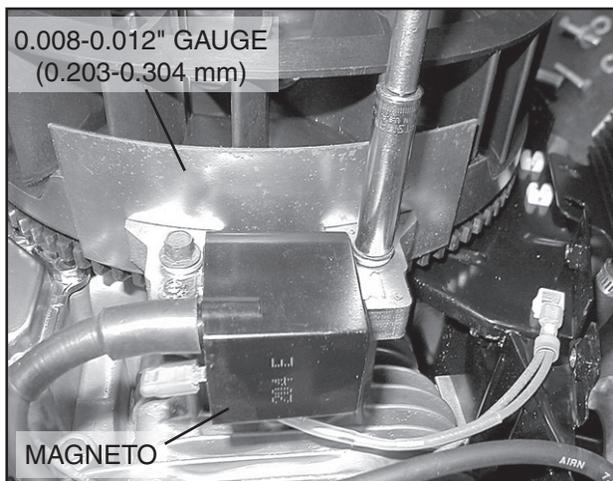

Figure 6-49. – Setting Ignition Magneto (Armature) Air Gap
1. See Figure 6-49. Rotate the flywheel until the magnet is under the module (armature) laminations.